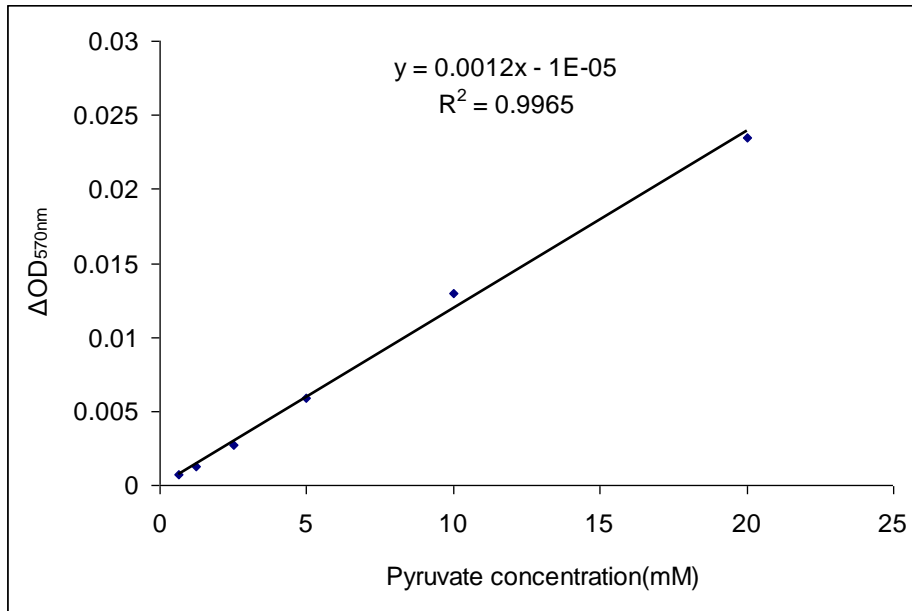

Figure 1. A typical pyruvate standard curve measured by ScienCell™ Pyruvate Kinase Assay kit.
2. Based on the calibrated ΔOD570nm of the pyruvate standard, make a standard curve by plotting ΔOD570nm as a function of pyruvate concentration. (See Figure 1 for a typical standard curve). Determine the slope and R2 value of the resulting trend line.